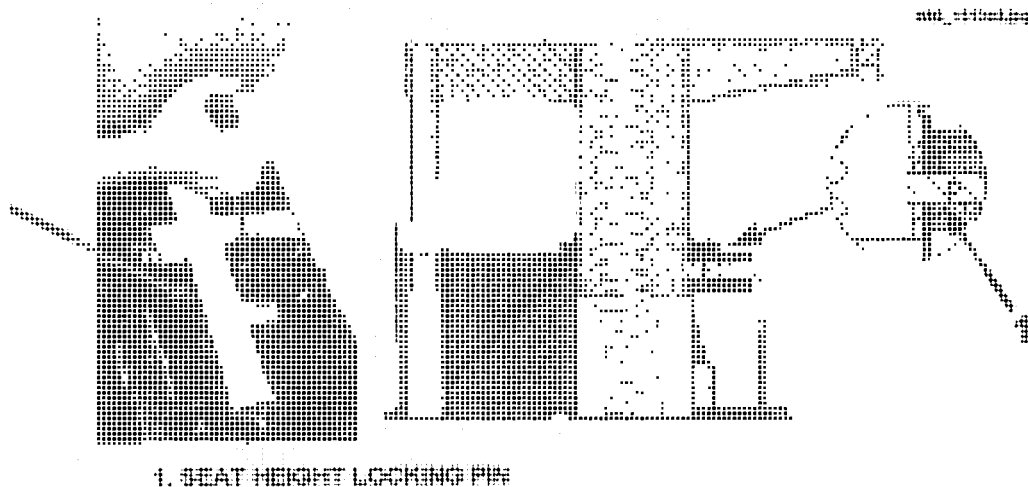

FIGURE 25.
- Through the opening at the top of the seat base cylinder, use a screwdriver to position the seat height springs away from the seat height locking pin. The springs should be adjusted so that they arc away from the locking pin (push over with screwdriver as shown on the left in FIGURE 25, push toward front of bus). This step creates the clearance needed to prevent interference between the seat height locking pin and the springs.